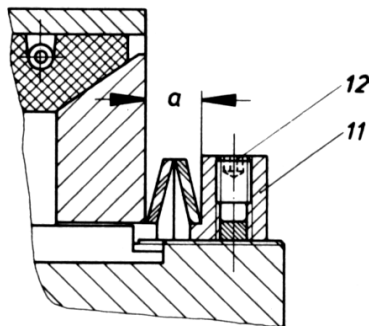

Fig. 4
4.1.6 Align clutch with a dial gauge in the disengaged condition as shown in Fig. 4. When the clutch side is turned, the radial and axial run-outs must not exceed the values specified in table 1 at any point on the clutch housing.